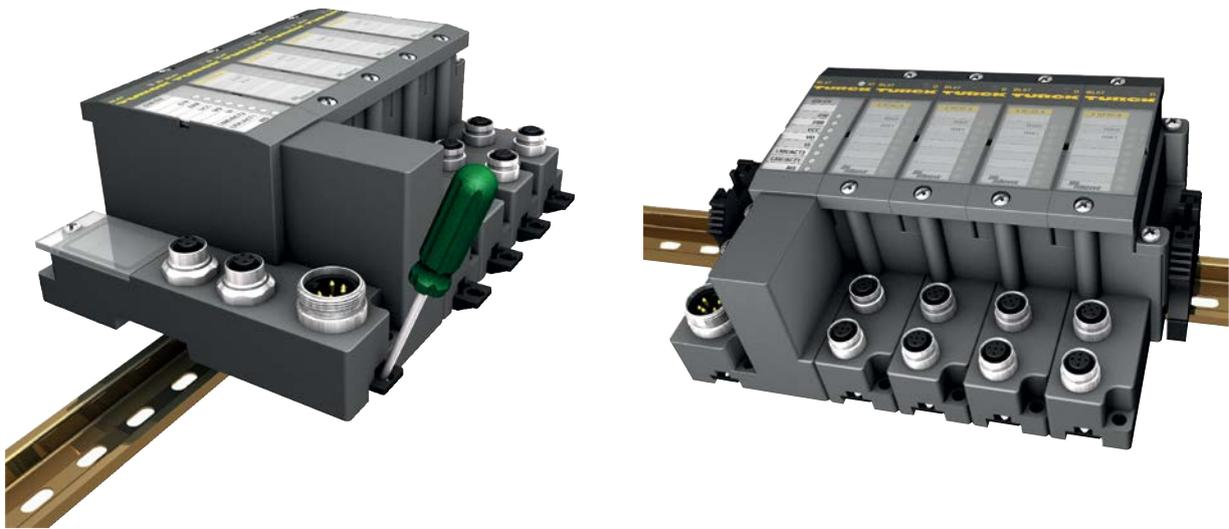

Fig. 17: Mounting BL67 interfaces on a DIN rail
- Attach the BL67 interface to the DIN rail as per Fig. 17.